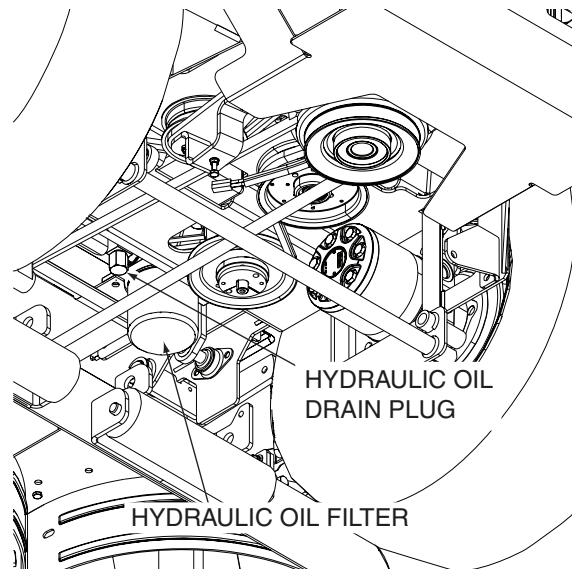

Figure 7-3. Hydraulic Oil Filter and Drain Plug
2. Place a suitable container under the hydraulic oil filter. Tilt the seat forward. Remove the fill cap from the reservoir and the drain plug from the bottom of the drain tee fitting on the front side of the filter base. See Figure 7-3. Allow the fluid to drain into the container and properly discard it.
- Remove the oil filter element and properly discard it. See Figure 7-3. Fill the new filter with clean oil and install the filter. Hand tighten only.